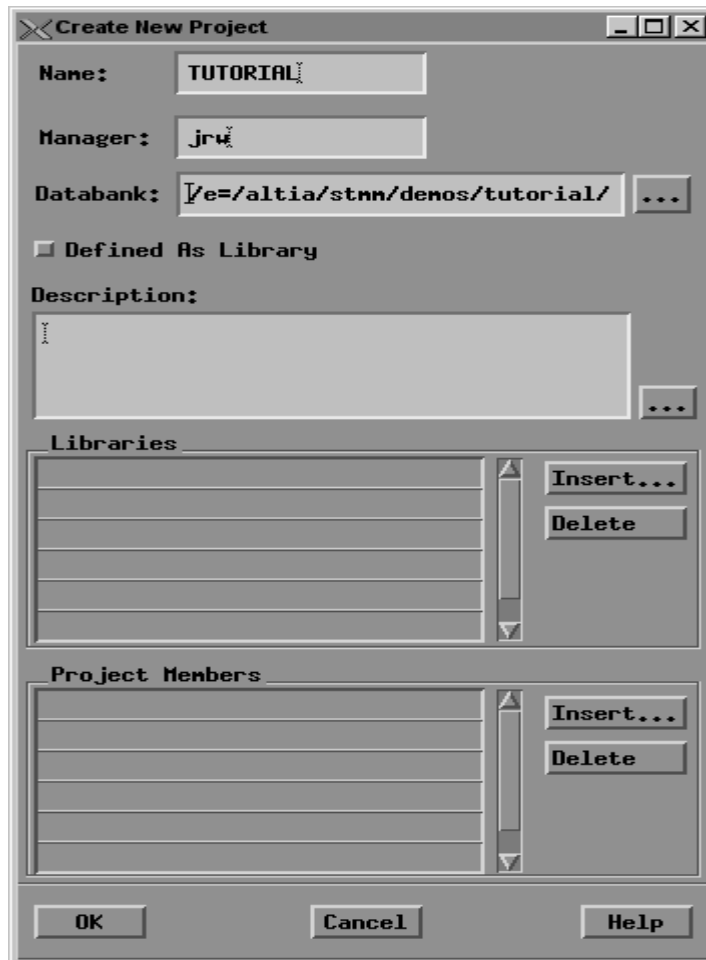

FIGURE 4-1 StateMate
3. In the **Name:** field, type **TUTORIAL** and for **Manager:**, type in your StateMate user name. For **Databank:**, type in the location of the sample databank that was included with the StateMate connection (usually located in `$ALTIAHOME/stmm/demos/tutorial` where `$ALTIAHOME` is replaced by the actual Altia product directory name) and then click **OK** (see Figure 4-1).